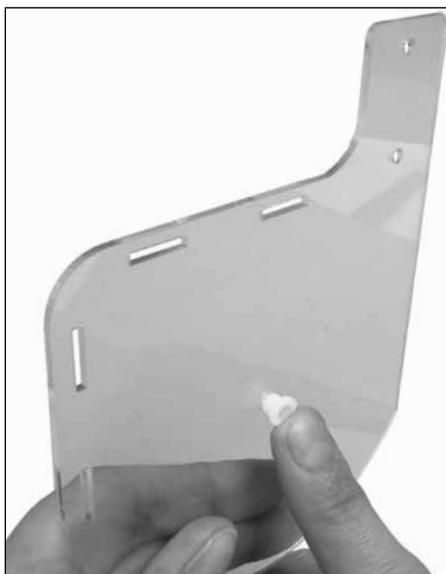

Figure 8
10. Take Part A and hold it so the rounded side is at the bottom and the notch coming from the top is on the right side (holding it in front of you). Push a nylon bushing into this part's center hole with the flat side of the bushing toward you (Figure 8).